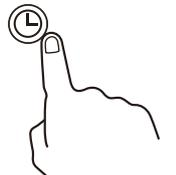

fig.5
• Press the timer button (fig. 5), and then use the up and down buttons to set the countdown time.